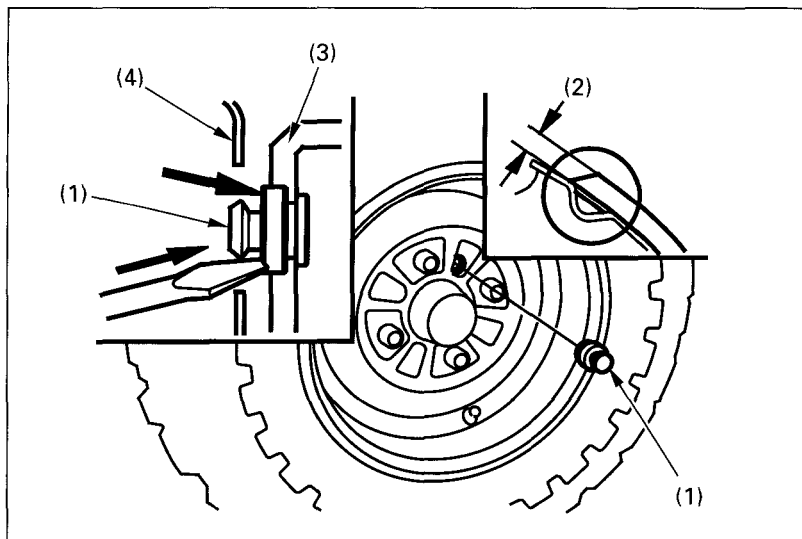
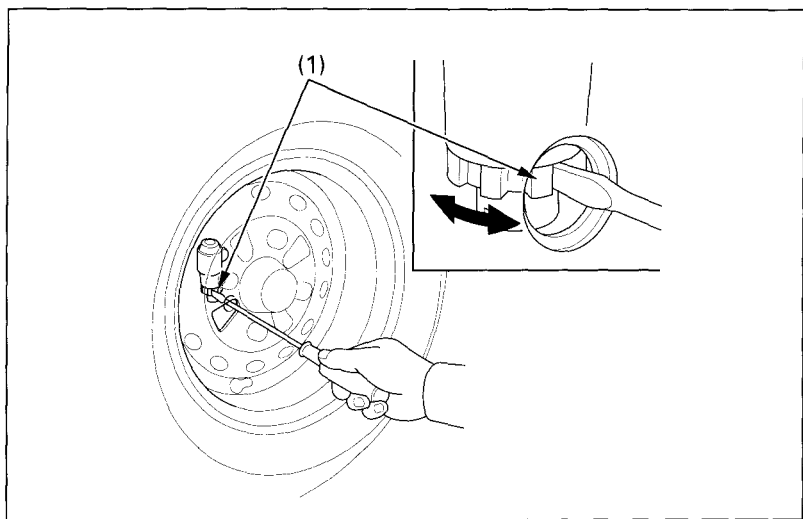

Fig. 4-25 (1) Inspection hole plug (2) Lining thickness (3) Front brake drum (4) Front wheel rim
Fig. 4-26
(1) Front brake lever
2. Remove the inspection hole plug (Fig. 4-25) and measure the lining thickness (2) on both front wheels.
3. If the brake lever free play and the brake shoe lining thicknesses are within the recommended limits, reinstall the inspection hole plugs, seating them into the inspection holes as shown in Fig. 4-25.
3. Beginning with either the left or right front wheel, remove the inspection hole plug (Fig. 4-25) and line up the hole with one of the brake adjusters (Fig. 4-26).
4. Using a screwdriver, turn the brake shoe adjuster (1) in the direction of the arrow until the front brake locks.
(1) Brake adjusters
7. Reinstall the inspection hole plug, seating it into the inspection hole as shown in Fig. 4-25.